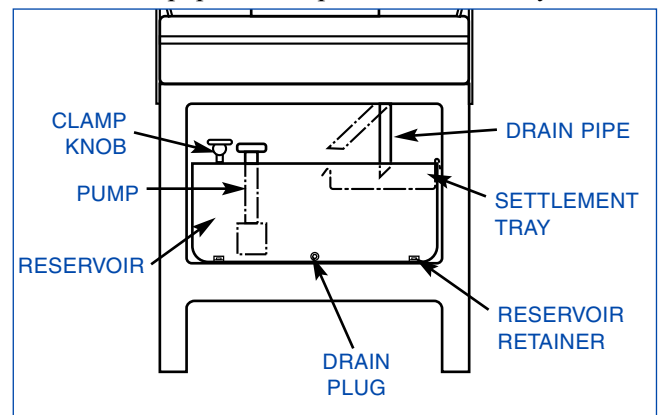

FIGURE 1-2, Coolant Reservoir
7. Remove Reservoir Retainers, by removing two (2) Screws (see Figure 1-2).